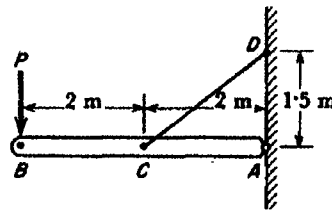

Fig.1 (a)
- 1.(a) A rigid bar AB is hinged to a vertical wall and supported horizontally by a tie-bar CD as shown in Fig. 1(a). The tie-bar has a cross-sectional area $A = 0.5 \text{ sq cm}$ and its allowable stress in tension is $\sigma_w = 1,500 \text{ kg/cm}^2$. Find the safe value of the magnitude of the load P and the corresponding vertical deflection of point B. The tie-bar has modulus of elasticity $E = 2(10)^6 \text{ kg/cm}^2$.
- (b) A rigid steel plate is supported by three concrete posts each having a $10\text{cm} \times 10\text{cm}$ square cross-section as shown in Fig. 1(a). By accident, the middle post is 0.05cm shorter than the other two before load P is applied. Find the safe value of load P if the working stress for the concrete in compression is 200kg/cm^2 and the modulus of elasticity $E_c = 12 \times 10^4 \text{ kg/cm}^2$.